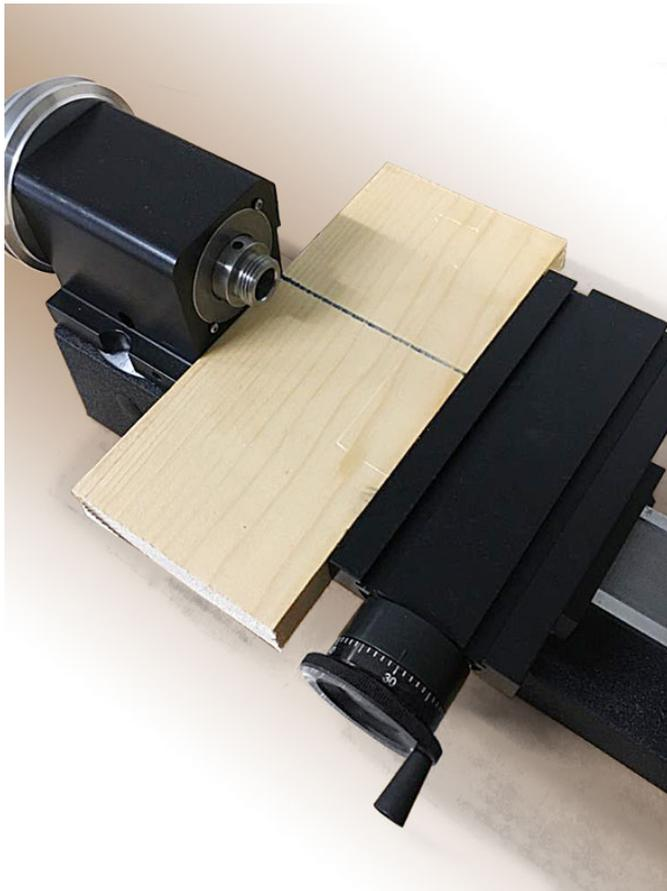

FIGURE 5—Wood block
5. The best way to do this when the handwheel assembly is on the machine is to place a piece of wood between the crossslide and the front of the headstock (see Figure 5).